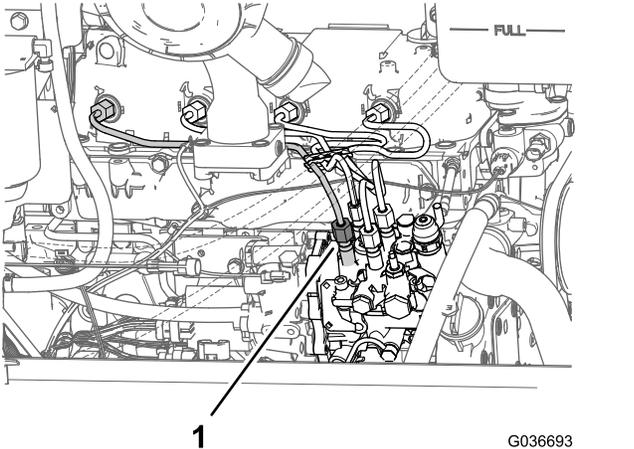

Figure 74
1. Loosen the tube nut for the cylinder #1 fuel-injector at the injection pump (Figure 74).